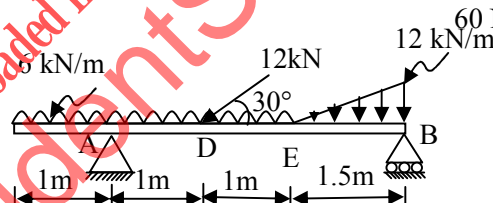

Fig. 8 Que 4(b)
- (b) Calculate shear force and bending moment at points A, B, C, D and E. for the beam shown in **Fig. 8**. Also plot neat shear force and bending moment diagrams indicating values at above points. Locate point of contraflexure from support B. **07**